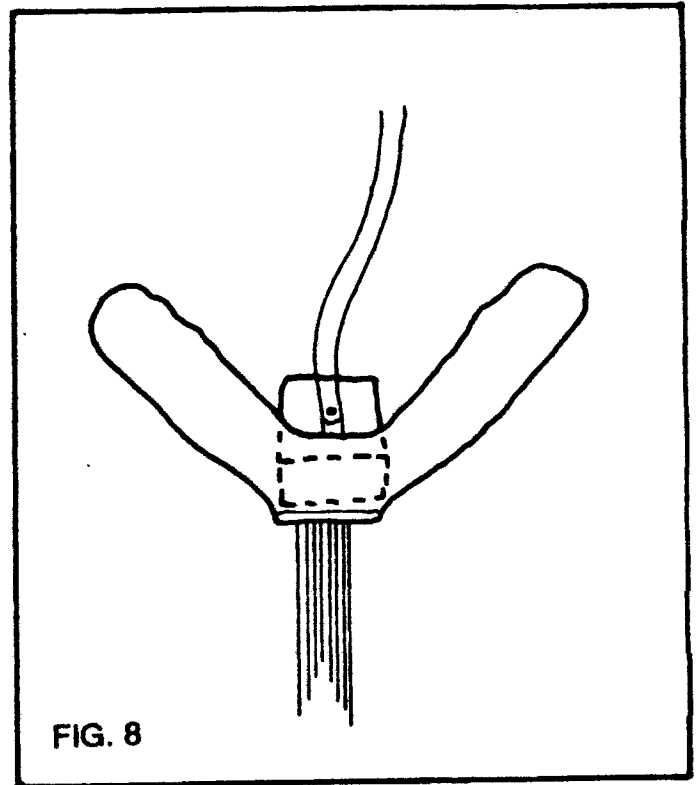
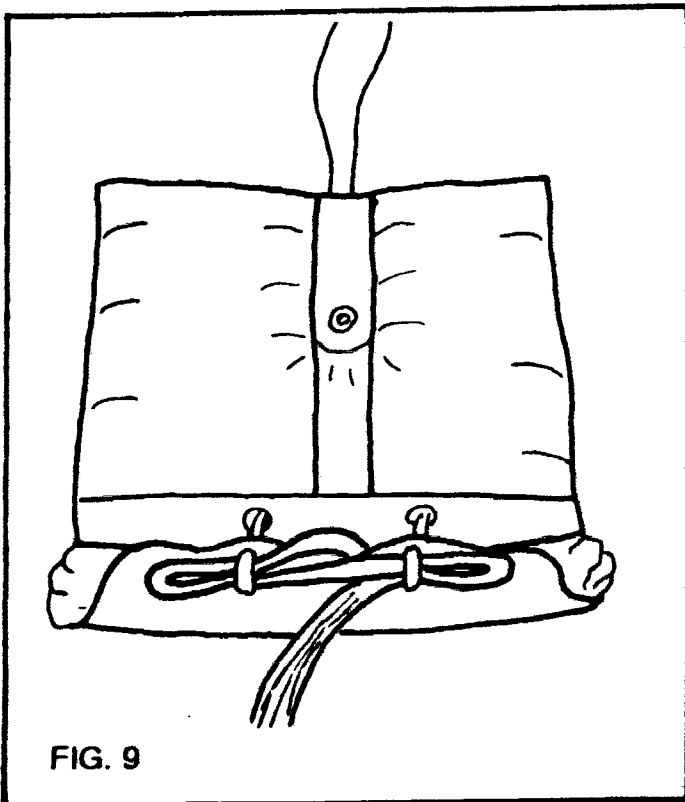

FIG. 8
FIG. 9
4) As shown in FIG. 8, place the reserve free bag under the "V" of the canopy, and push each half of the canopy up into its respective half of the bag. Be sure the slider is still up against the canopy as far as it will go. After the "ears" of the bag are stuffed, push the remainder of the canopy with the slider into the space at the bottom of the bag, and lock the bag with two stows of the suspension lines as shown in FIG. 9. Be sure that each stow forms a bight 2" to 3" long beyond the elastic.
"S" fold the rest of the canopy on top of the first fold (FIG. 7). When stuffing the canopy into the deployment bag, be sure that the blue tab sticks out thru the grommet in the top of the bag. (One way to assure this is to use a pull-up cord.) Continue stuffing the canopy into the bag, being sure that no canopy fabric is trapped inside the bag between the metal ring and the grommet in the top of the bag. Try to fill all the corners of the bag so that the bulk of the canopy is evenly distributed. See FIG. 8.